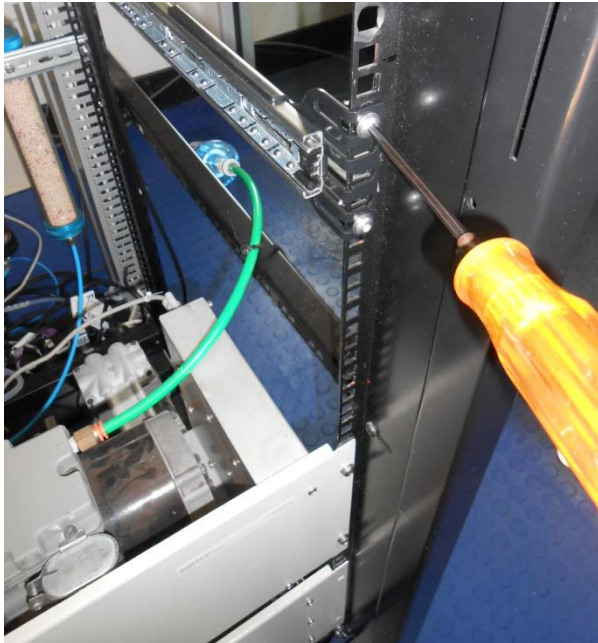

Figure 76 – Attach Slides to Front of Rack
7. Install the two assembled outer slide rails onto the left and right side of the rack securely with M6 bolts; washer and locknuts/cage nuts (refer to Figure 76).